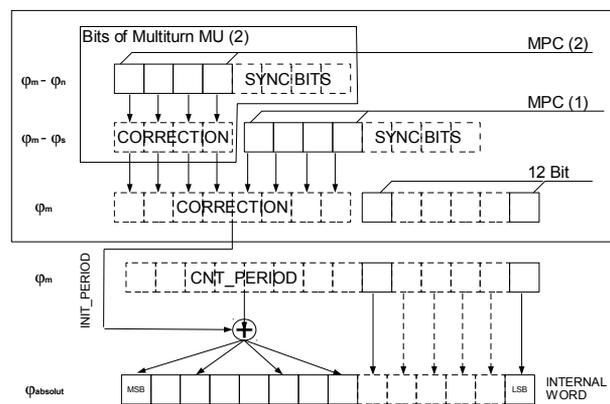

Figure 42: Principle of the synchronisation of a 3-track nonius system using 2 iC-MU without further multiturn data
Figure 42 shows the principle of the synchronisation of the data from iC-MU (2) to iC-MU (1).